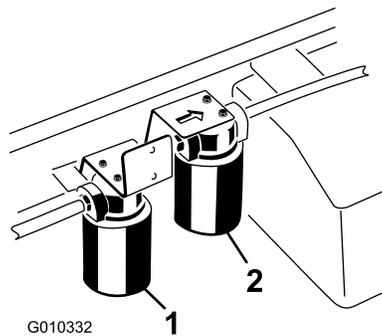

Figure 79
2. Clean the area around filter mounting area. Place a drain pan under the filter and remove the filter (Figure 79).
1. Clean the area around the high flow filter mounting area (Figure 79). Place a drain pan under the filter and remove the filter.